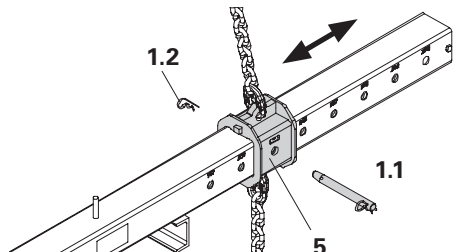

Fig. 10
1. Remove cotter pin (1.2) and positioning pin (1.1). (Fig. 10)
2. Move slider (5) and adjust to required dimension.